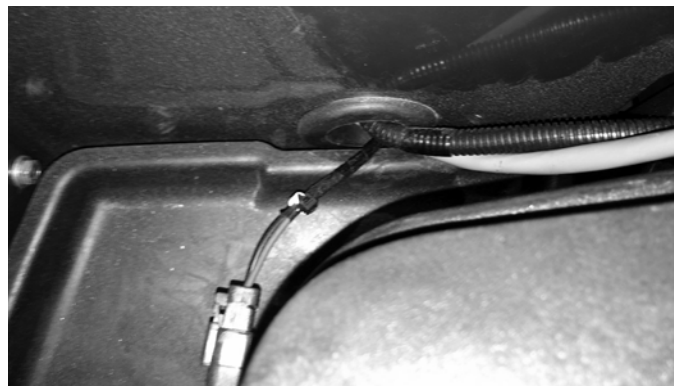

FIG. 73
12. Route GLC2200 connector through access grommet behind operator's seat (FIG. 73).